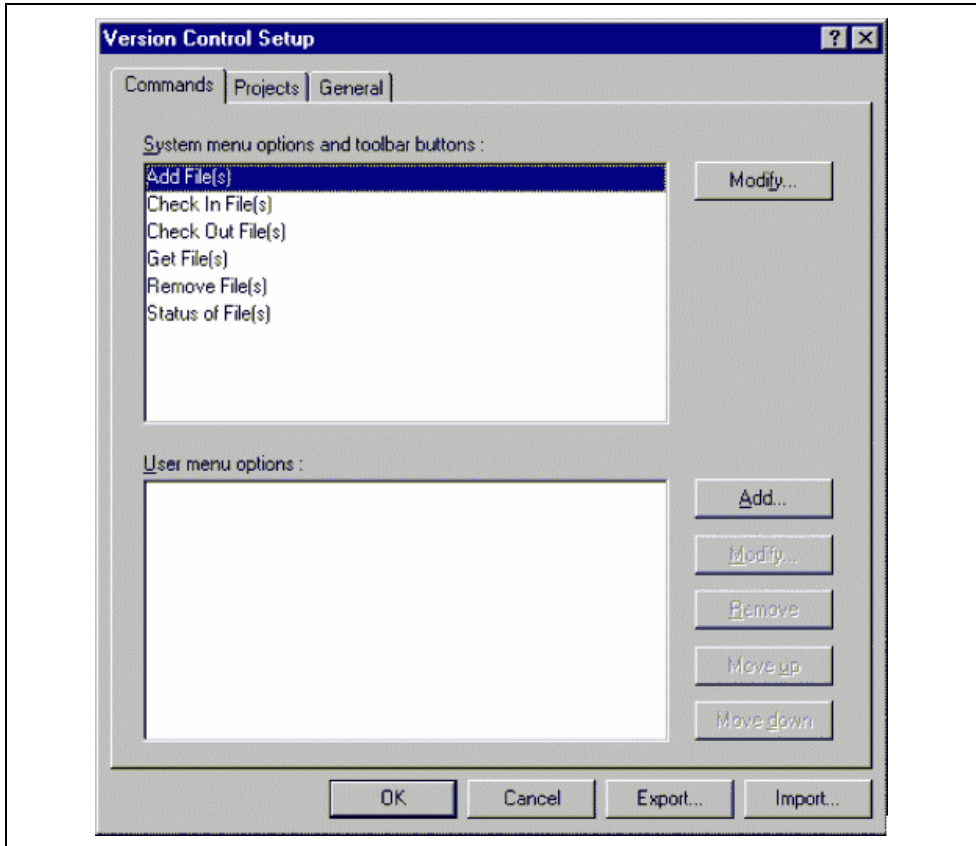
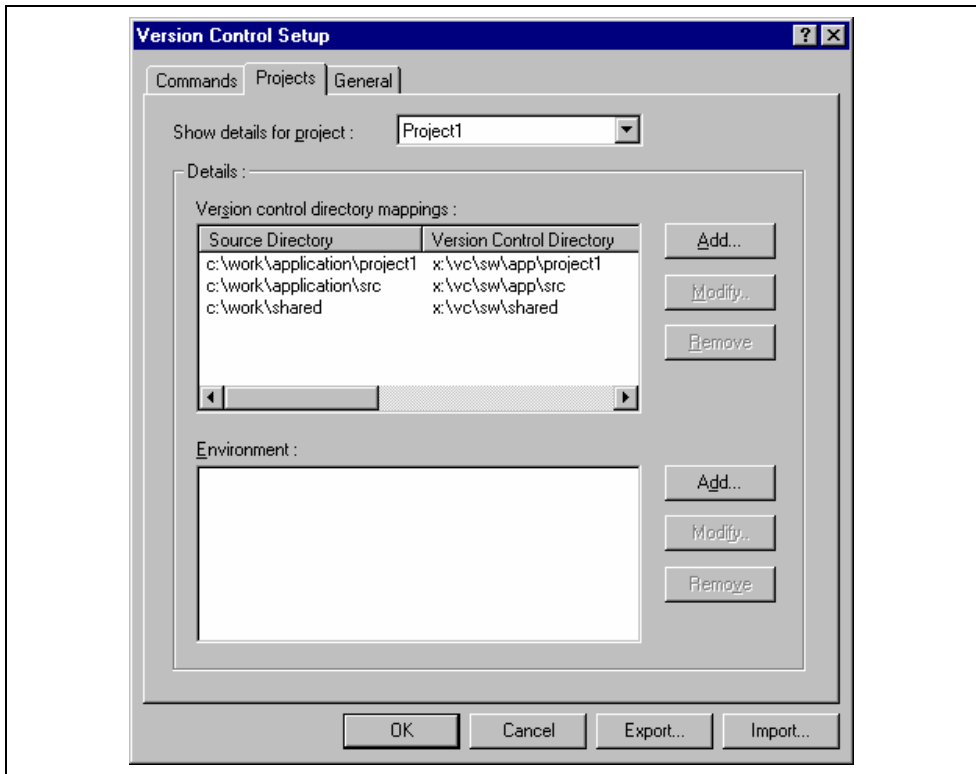

Figure 8.1: Version Control Setup Dialog Commands Tab
Figure 8.7: Version Control Setup Dialog Projects Tab
The custom version control support allows you the most flexibility in specifying how a version control system is to be used. To configure it, select **[Version Control->Configure...]**. The “Version Control Setup” dialog will be displayed (figure 8.1).
1. Select **[Version Control->Configure...]**. The dialog shown in figure 8.1 will be displayed.
1. Select [**V**ersion **C**ontrol->**C**onfigure...]. The dialog shown in figure 8.1 will be displayed.
1. Select [**Version Control->Configure...**]. The dialog shown in figure 8.1 will be displayed.
However, when executed, this command can only ever get the file MAIN.C. To resolve this problem, HEW uses a system of placeholders and directory mappings. The latter tell the HEW which "working" directories (i.e. where source files are being worked on) map to which "controlled" directories (i.e. where the source files are stored in the version control system). Mappings between these two directory systems can be specified via the "Projects" tab of the "Version Control Setup" dialog (figure 8.7).
1. Select [**Version Control->Configure...**]. The dialog shown in figure 8.1 will be displayed. Select the “Projects” tab, and the dialog shown in figure 8.7 will be displayed.
1. Select [**Version Control->Configure...**]. The dialog shown in figure 8.1 will be displayed. Select the “Projects” tab, the dialog shown in figure 8.7 will be displayed.
Select the “Projects” tab of the “Version Control Setup” dialog to view the current settings (figure 8.7).